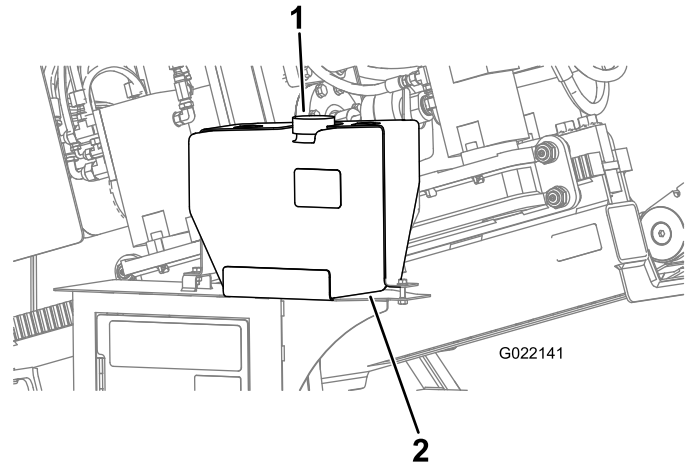

Figure 153
- D. Remove the cap from the antifreeze tank for the drilling-fluid pump (Figure 153).
- E. Ensure that the tank is full of antifreeze (Figure 153).
- C. Add antifreeze to the tank as needed (Figure 153).
5. Install the cap onto the antifreeze tank (Figure 153).